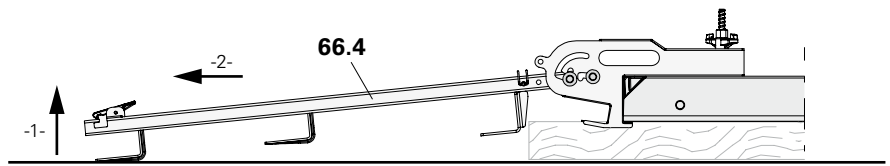

Fig. A7.26a
- 2- pull out (Fig. A7.26a + b + c) and